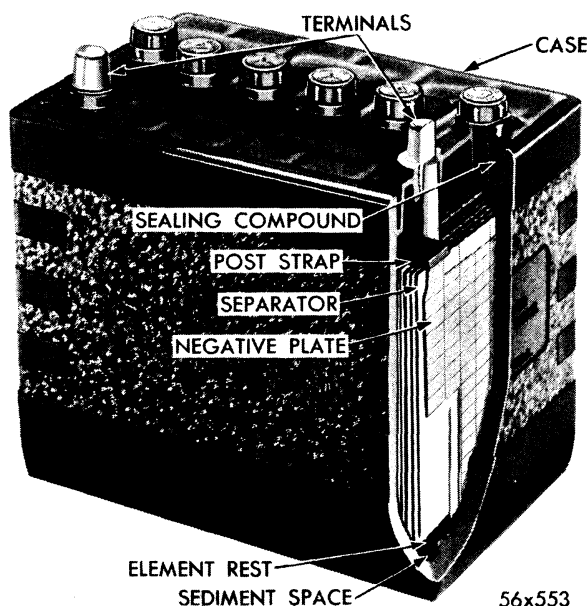

Fig. 1—Typical 12-Volt Battery (Cut-Away View)
1. TESTING THE 12-VOLT BATTERY (FIG. 1)